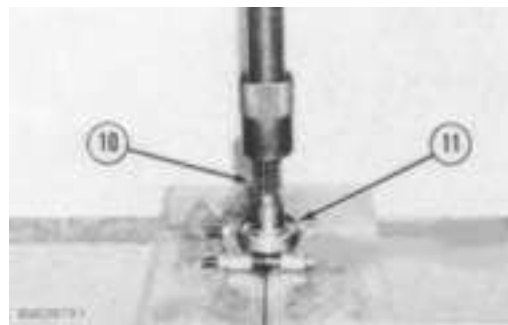

FIGURE 7-42
6. Press the bearing (11, Figure 7-42) onto the shaft (10).